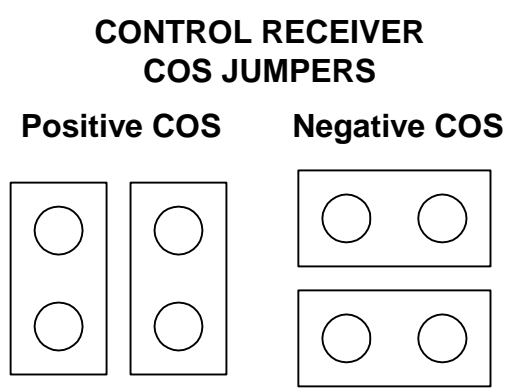

FIGURE 3
5. If the COS goes positive when the receiver is activated make sure the jumpers in JP3 and JP4 have their skinny parts both faced towards potentiometers R29 and R37 (see figure 3). This is the position for a positive going COS polarity. The jumpers are in the positive COS position when they are shipped from the factory. For a negative polarity COS the jumpers go across from JP3 to JP4. (NOTE: The jumpers in positions JP3 and JP4 can always be turned 90 degrees for the opposite COS polarity)